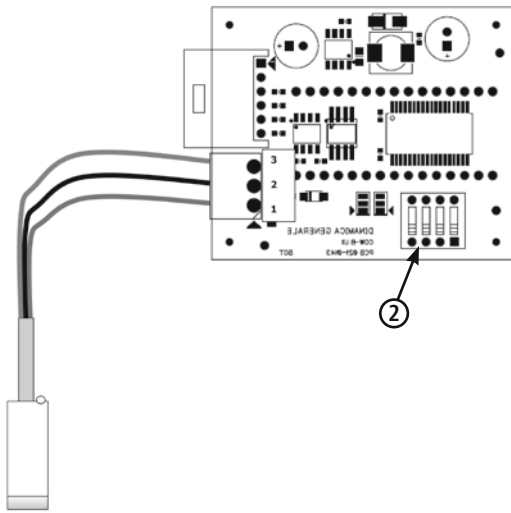

Figure 8: diagram of display card + sensor connection
The motor is activated when the brushes are lifted since the sensor (item 5, Figure 8) records the carriage's rest position. When the carriage leaves the rest position, the brushes start to rotate for the set cycle time (factory setting 60 sec.). Once the working cycle is complete, the control waits for further activation, upon which the direction of the brushes' rotation changes to the opposite of the preceding cycle. This ensures that the brushes wear out evenly.
The cycle time is set at the factory to 60 seconds. If necessary, this can be adjusted using the dip switch element on the display card (item 2, Fig. 8) from 7.5 - 120 sec. (Table inside the control box).